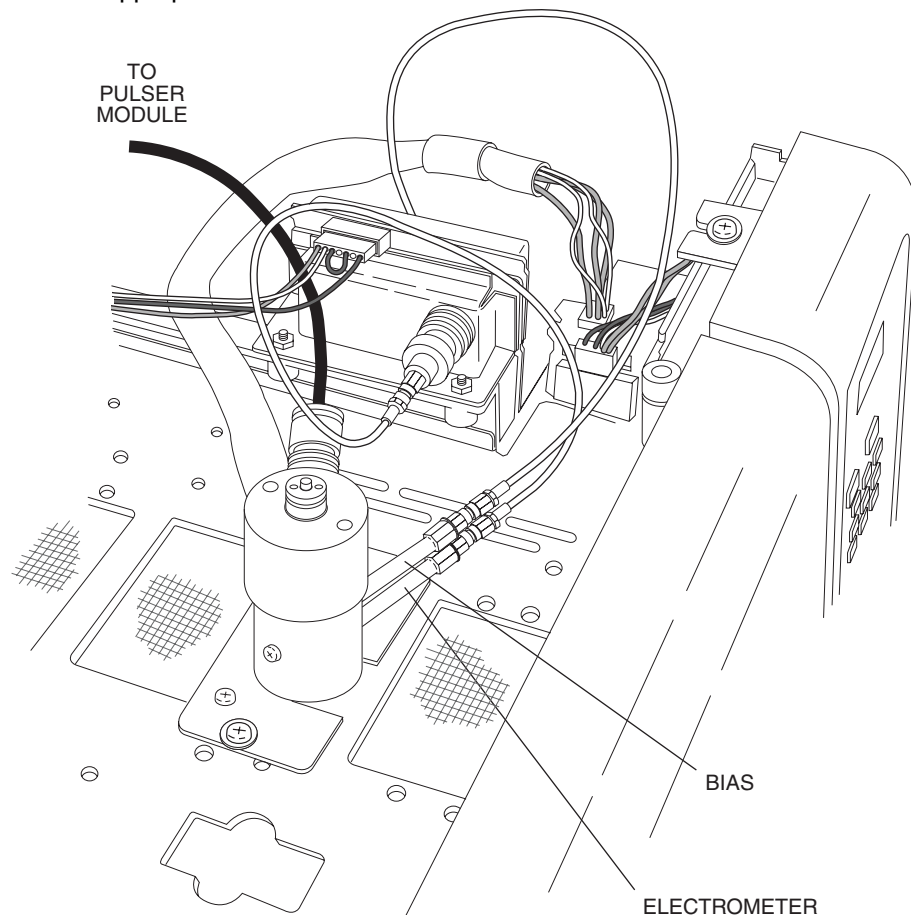

Figure 3: Mounting the detector on a GC-17
2. Install the detector on the GC using two screws. Refer to **Figure 3** or **4**, as appropriate.